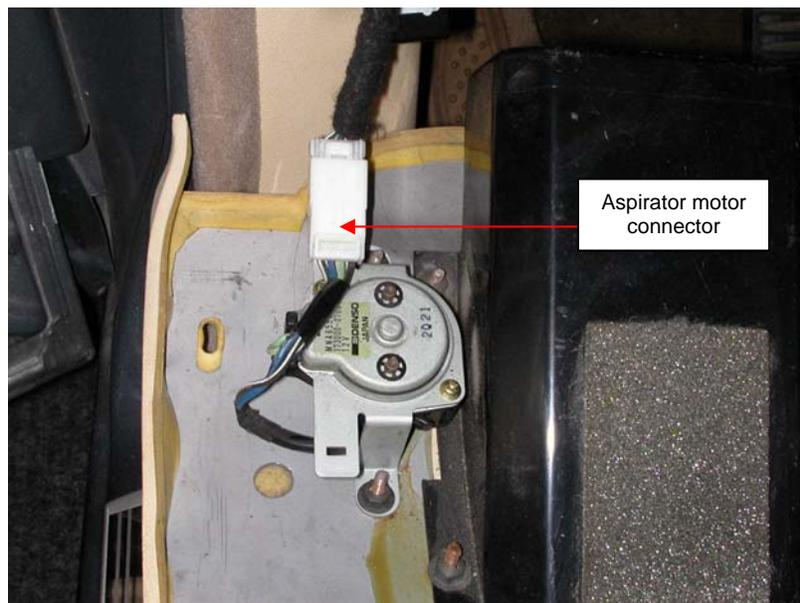

Fig. 2
2. Separate the white connector to the in-car temperature-sensor aspirator motor (Fig. 2) and remove the underscuttle. (As an aside, you might want to remove the motor and clean out any lint/debris that has accumulated behind the louvers.)